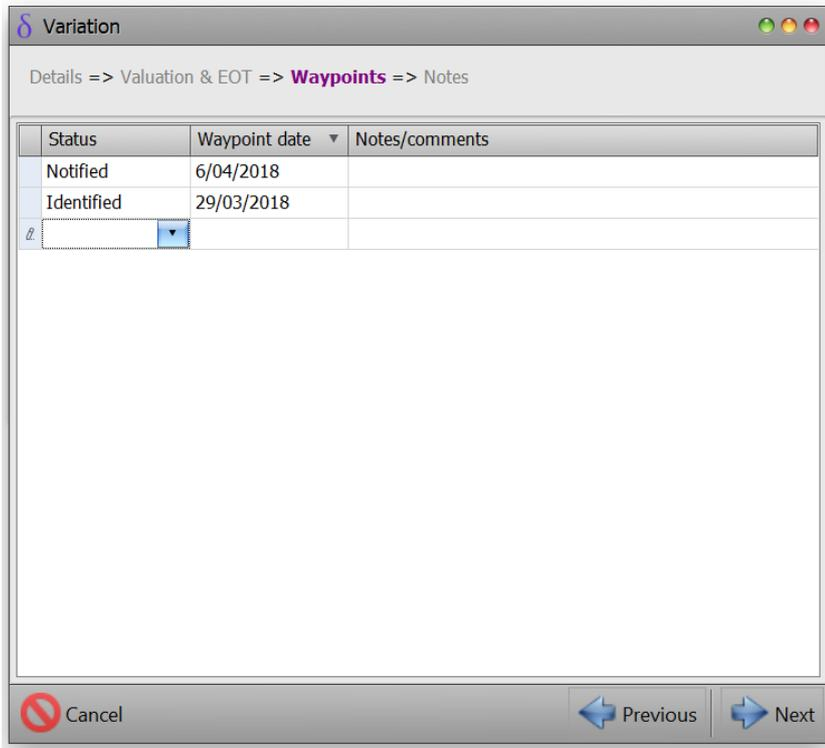

Figure 92 Variations waypoints screen
- In the Waypoint screen enter in the date identified and date notified details and click *Next* then *Save & Finish* (Figure 92).